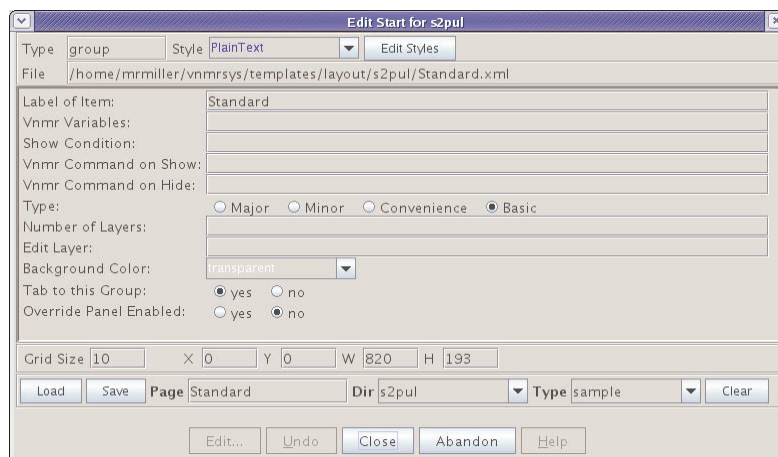

Figure 7. Panel Editor Window
2. Select **Parameter Pages...** to display the panel editor window, see Figure 7.
1. Enter a **new value** in the field next to Grid Size, see Figure 7.